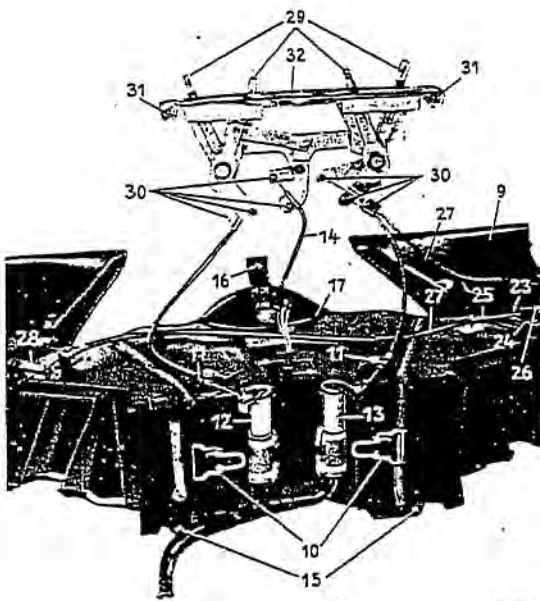

Fig. 83-1/2
4. Detach the wire cable (14) for the fresh-air flap (see Fig. 83-1/2).
5. Use a socket wrench to unscrew the two fixing screws (15) on the cowl and the fixing screw (16) on the water tank (see Fig. 83-1/2).
**Note:** Push the left defroster nozzle (8) toward the left to be able to get at the left fixing screw (15) on the cowl.
8. Detach the water hoses (18) from the return pipe (19) (see Fig. 83-1/3).